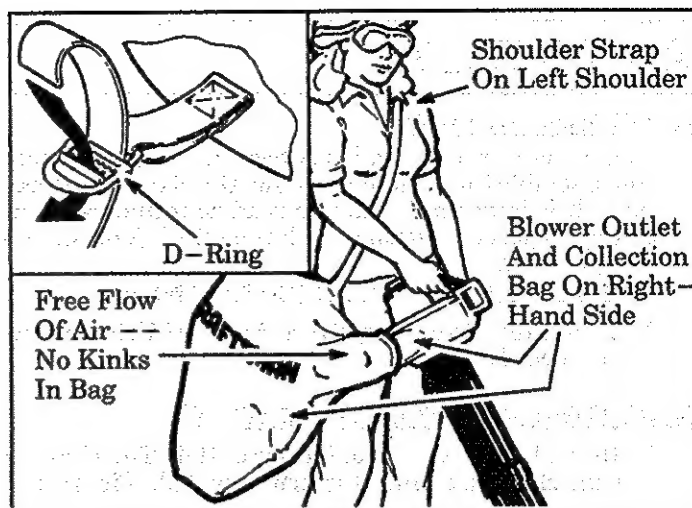

Figure 6
1. With your left hand hold the unit in an upright position, supporting the lower vacuum tube on the ground. Make sure the blower outlet and collection bag are positioned on your right-hand side. Figure 6.
2. Place the collection bag strap over your left shoulder. Figure 6.
3. Adjust the shoulder strap to allow a free flow of air from the blower outlet. Figure 6. If the bag is kinked, the unit will not operate properly.